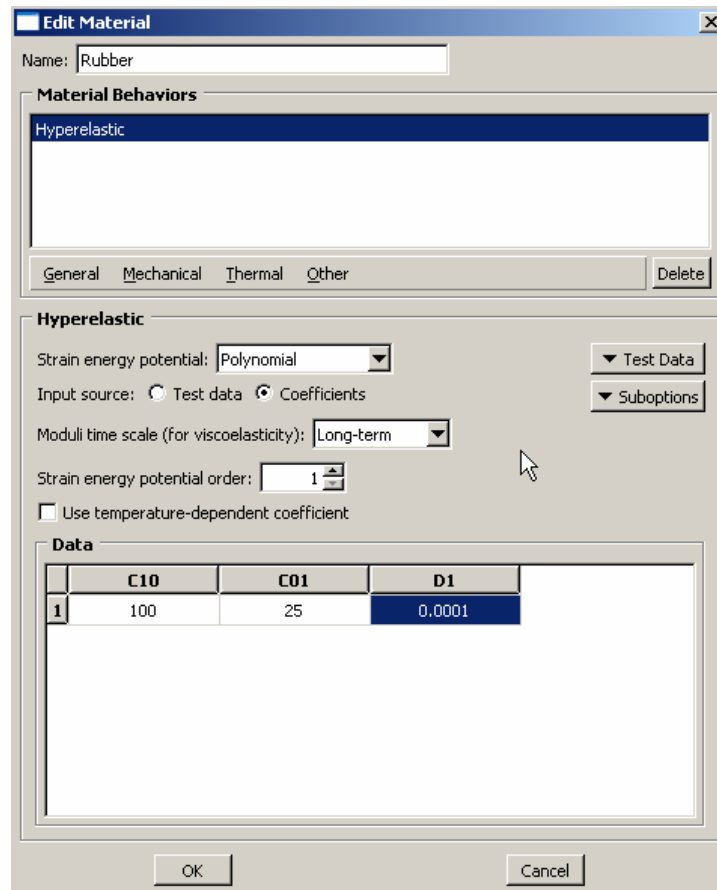

Figure W-19
8. Double click on Materials container in the model tree to create a material named **Rubber**. Select **Mechanical**→**Elasticity**→**Hyperelastic** to enter hyperelastic material properties as shown in Figure W-19. Also add density of **0.0001** using **General**→**Density**. Press **OK** to complete the material definition